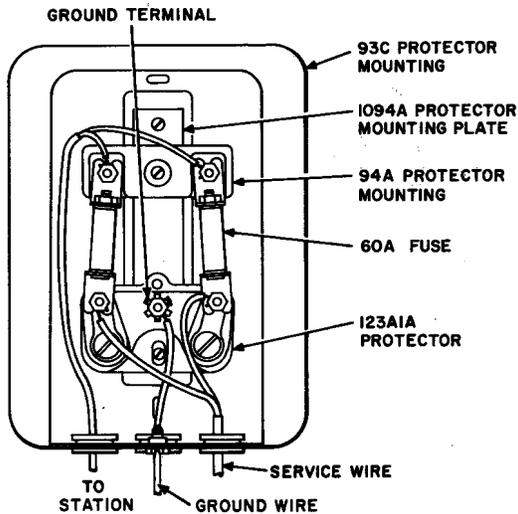

Fig. 89—Fuseless Protector Equipped With Sneak Current Fuses, Outdoor Installation
11.09 A fuseless protector equipped with 60A fuses for outdoor installations is shown in Fig. 89.